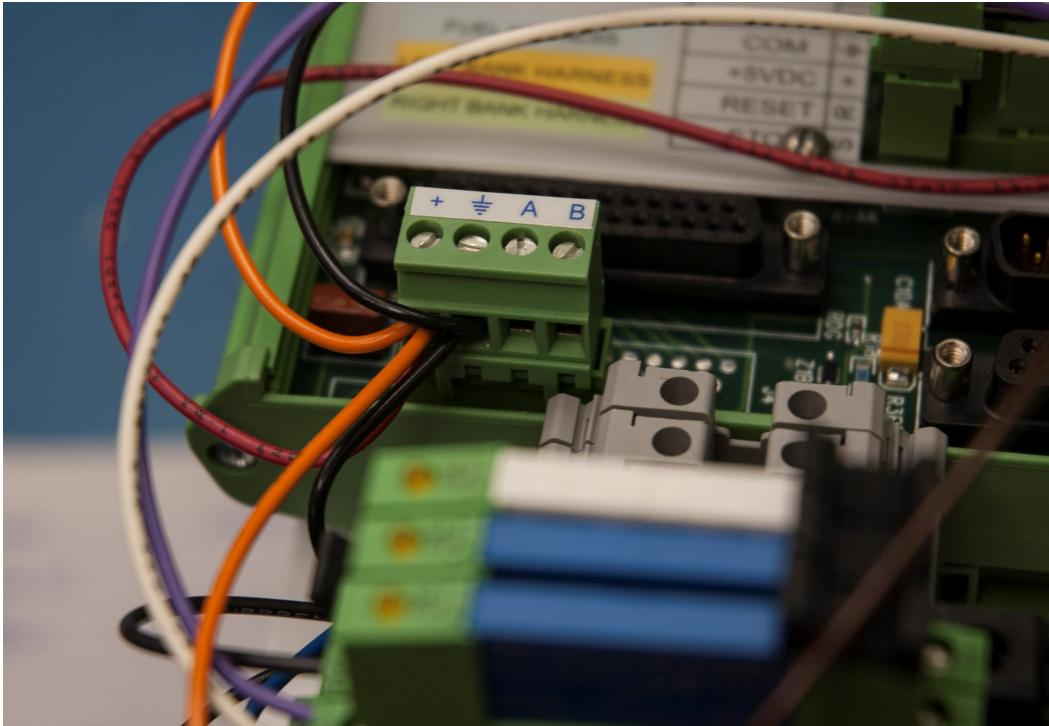

Figure 3
6. Loosen the top gray DIN rail block and slide it up. Install the fuse block as shown in Fig. 3